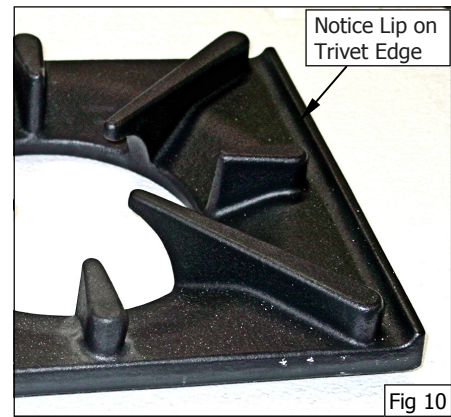

Fig 10
- Remove the trivets from the top of the appliance, taking note that the trivets are manufactured with a lip on one edge, the lip must always be fitted to the outer edge (front and back) of the range. (See Fig 10).
- d. Refit the trivets to the cook top, taking note that the trivets are manufactured with a lip on one edge, the lip must always be fitted to the outer edge (front and back) of the range. (See Fig 10).